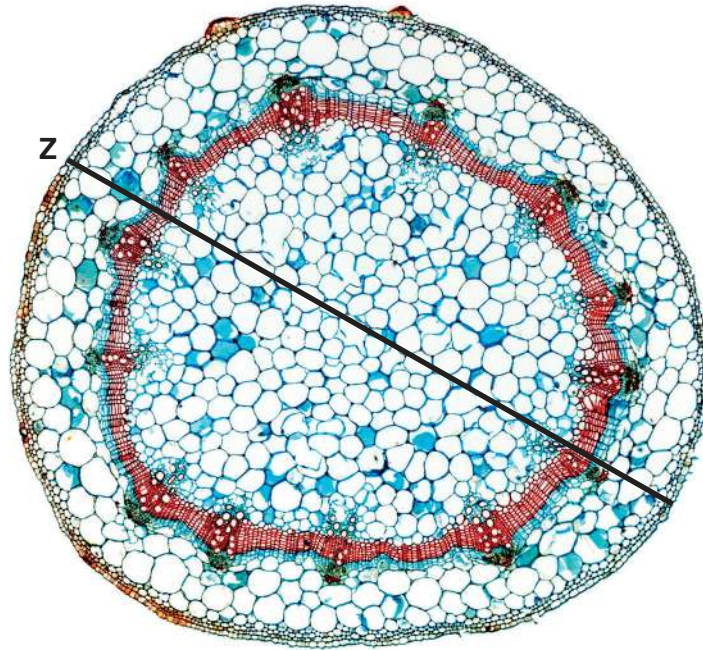

Fig. 2.2
- (b) Fig. 2.2 is a photomicrograph of a stained transverse section through an organ of a different type of plant.
- (i) Identify the organ shown in Fig. 2.2. Describe one observable feature that supports your identification.
- (ii) The actual diameter of the organ in Fig. 2.2 along line **Z** is $4500\mu\text{m}$.
Calculate the magnification of the organ shown in Fig. 2.2.
- (iii) Prepare the space below so that it is suitable for you to record the observable differences between the root on **P1** and the organ in Fig. 2.2.